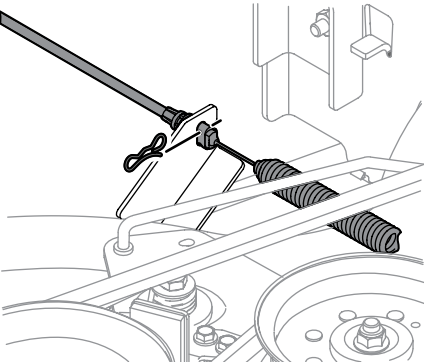

Figure 4-14
9. Carefully remove the PTO cable from the rear of the cutting deck by removing the bow-tie clip which secures it. Remove the spring from the deck idler bracket. See Figure 4-14.